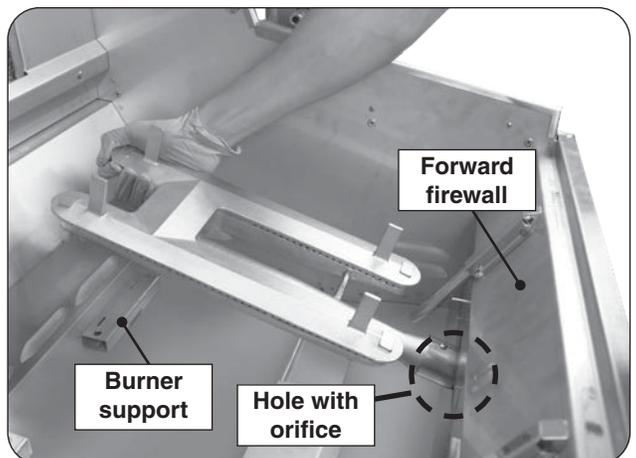

Fig. 41-2 Remove burners
3. Carefully lift the burner from the burner support and out from the hole in the forward fire wall. See Fig. 41-2.